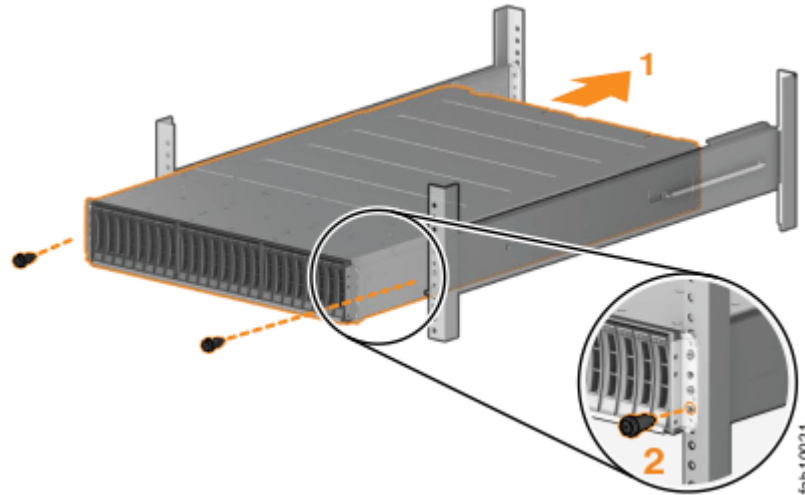
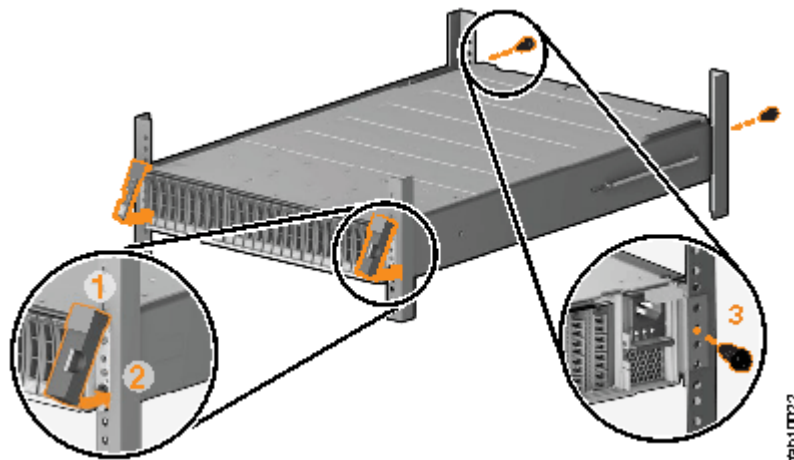

Figure 38. Inserting the enclosure
Figure 39. Reinstalling enclosure end caps
- See Figure 38 on page 68.
(See Figure 38 on page 68 and Figure 39 on page 68.)
See Figure 39 on page 68. The left end cap has indicator windows that align with the status LEDs (light-emitting diodes) on the edge of the enclosure.